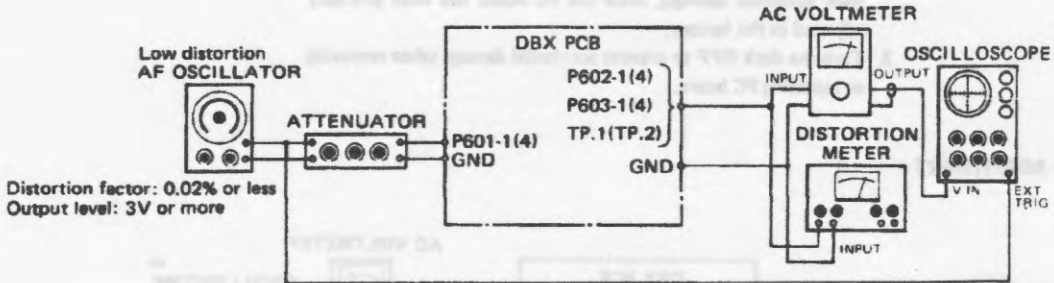

Fig. 3-12 Connection for decoder adjustment
1. Disconnect wires (with connector) from connectors P601 ~ P603, then make connections shown on Fig. 3-12. (Each connector's pin 1 and pin 4 correspond L-ch and R-ch respectively).